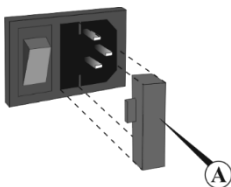

Figure 5. Fuse replacement
9.3 **Fuse replacement.** To replace the fuse, disconnect from electric circuit. Remove the power plug from the rear side of the unit. Pull out the fuse holder by applying leverage in recess (fig. 5/A). Remove the fuse from the holder. Check and replace with the correct fuse, if necessary, **M** 2 A for 220 V or **M** 3.15 A for 120 V, (type **M** - time lag: **Medium**).